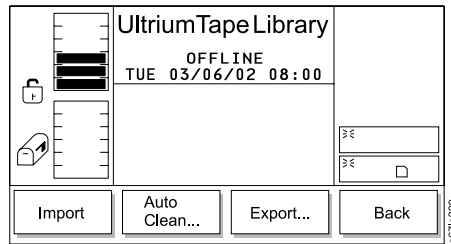

Figure 176. I/O Station Submenu
2. Press the button below the **I/O Station** softkey. The I/O Station Submenu displays (see Figure 176 on page 151).